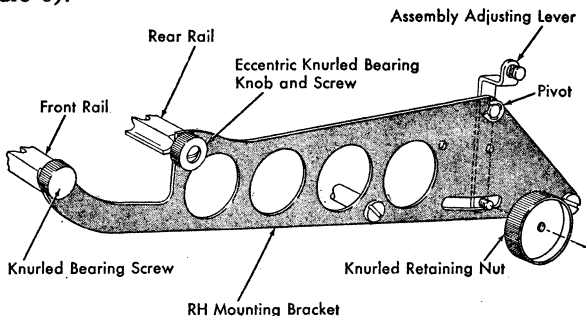

Figure 5. Mounting Bracket Adjustments
5. The knurled bearing screws should be loosely turned into the front rail end faces. Leave approximately .080" clearance between screw head and rail (Figure 5).
6. Mount the eccentric knurled bearing knobs on the rear rail end faces by means of their screws (Figure 5).
travel from extreme right to extreme left position (Figure 5).
Adjust to raise or lower the Hektowriter attachment so that the typed characters are centered on the ribbon at both ends of the carriage (Figure 5).